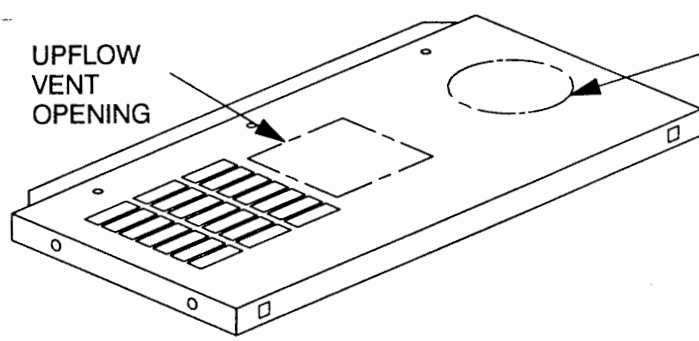

Figure 4 – Top Cap
14. Remove the rectangular knock-out in the center of the top cap (See Figure 4.)
15. Remove the round knock-out at the right side of the top cap (See Figure 4).